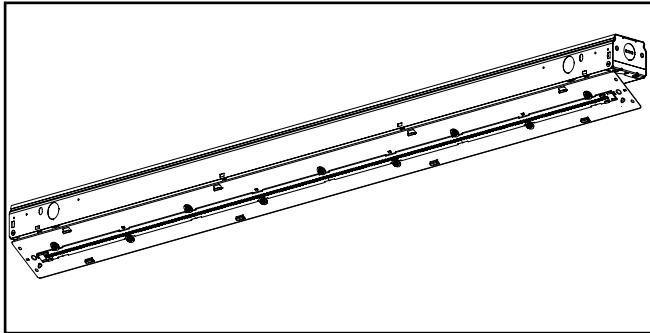

Figure 1.
1. Assemble base fixture and keep channel cover separate to simplify installation (Figure 1).